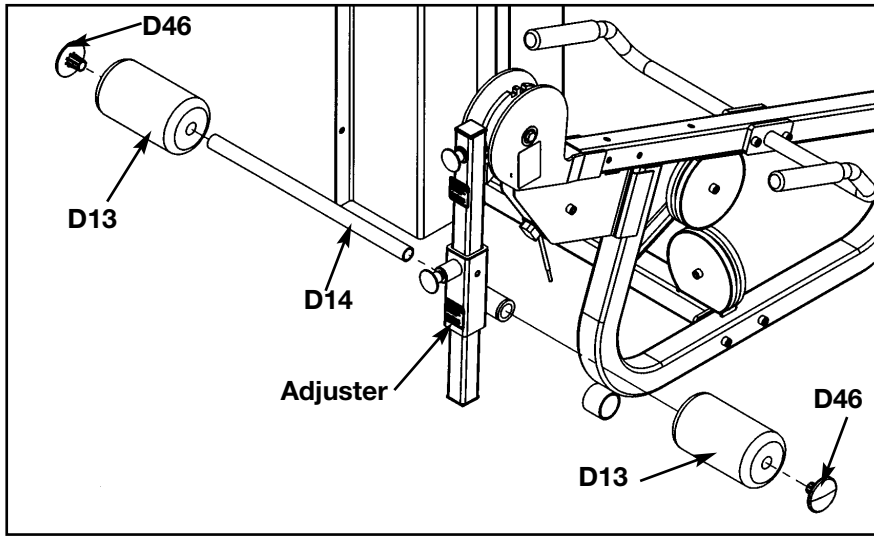

Figure 13
**9. Install cushions** (see steps 9A - 9I, Figures 13 and 14).
- B.** Slide leg curl tube (#D14) onto adjuster and install both round cushions as shown in Figure 13.
- C.** Install two plastic inserts (#D46) using a rubber mallet. See Figure 13.